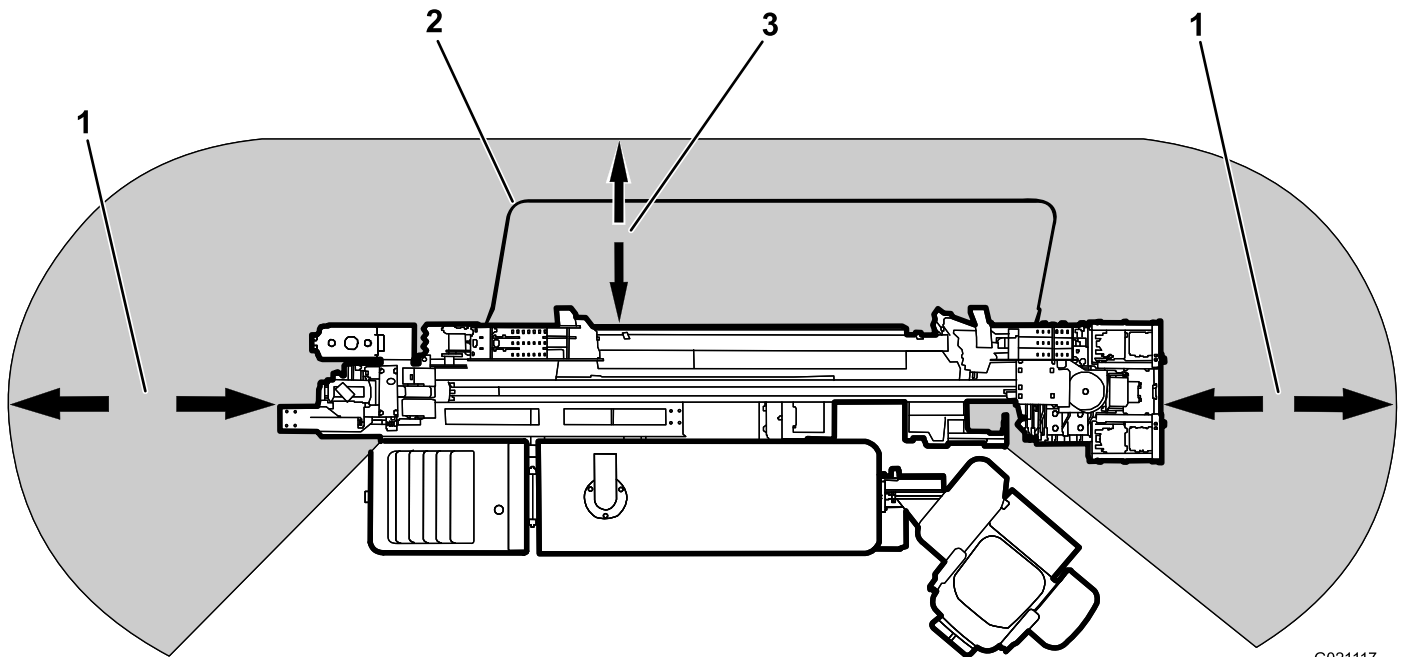

Figure 4
- Always lower the safety bar before drilling (Figure 4).